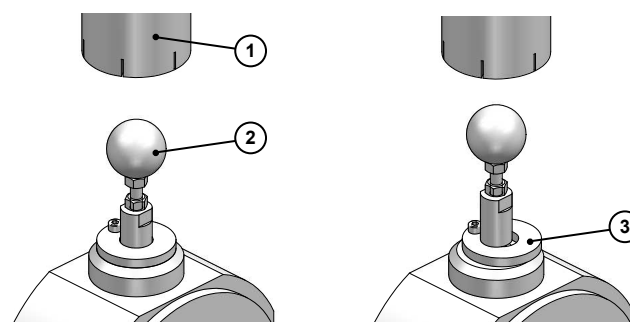

Fig. 16: Switching the control valve
2. Adjust the manual dosing valve (see Fig. 16 on page 21) until the flow meter displays the desired dosing quantity.